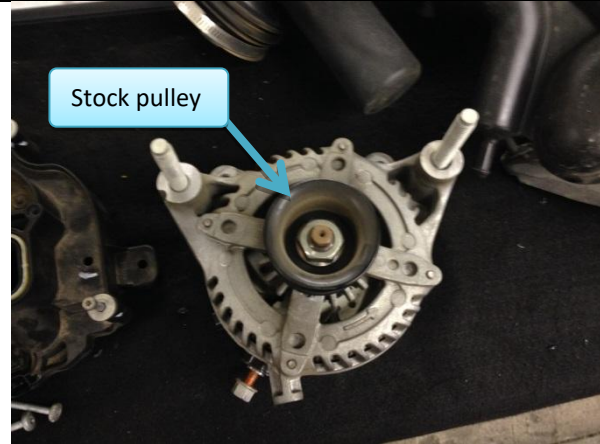

Figure 30: Stock alternator pulley.
17.5. Remove stock pulley from alternator (Figure 30)